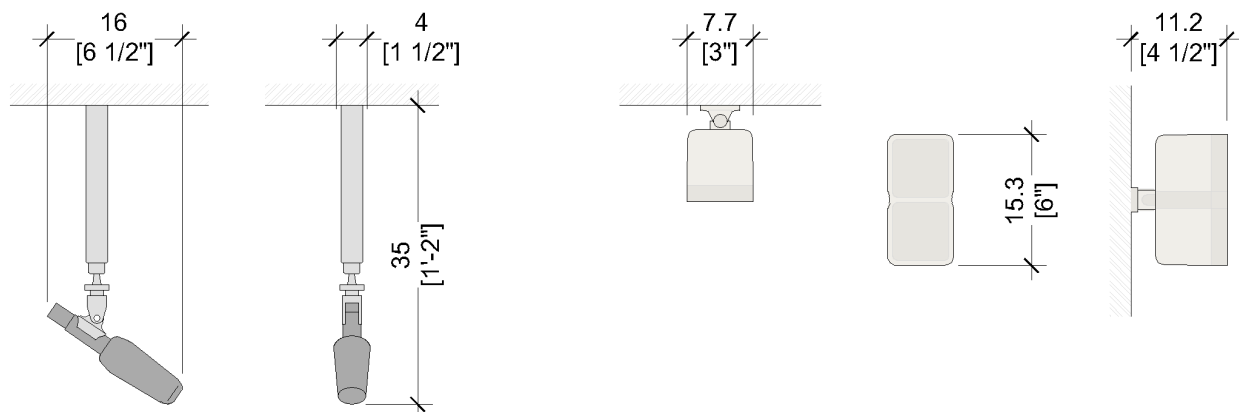

Figure 2-14 Microphone and Speaker Side and Front Elevations
- The secondary microphone will be Varian-installed to the false ceiling typically near the ceiling-mounted IRMs using the 25mm [1"] T-bar clip post (not shown), see Figure 2-14.